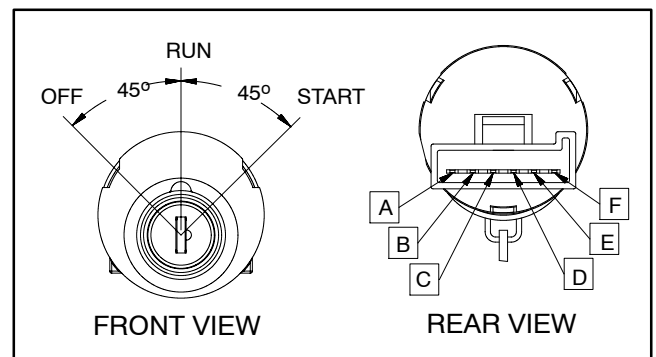

Figure 21
The ignition (key) switch is located on the control panel and has three positions: OFF, RUN and START (Fig. 21).
5. The ignition switch terminals are identified in Figure 21 and the circuitry of the switch is shown in the chart in Figure 22. With the use of a multimeter (ohms setting), the switch functions can be tested to determine whether continuity exists between the various terminals for each switch position. Verify continuity between switch terminals.